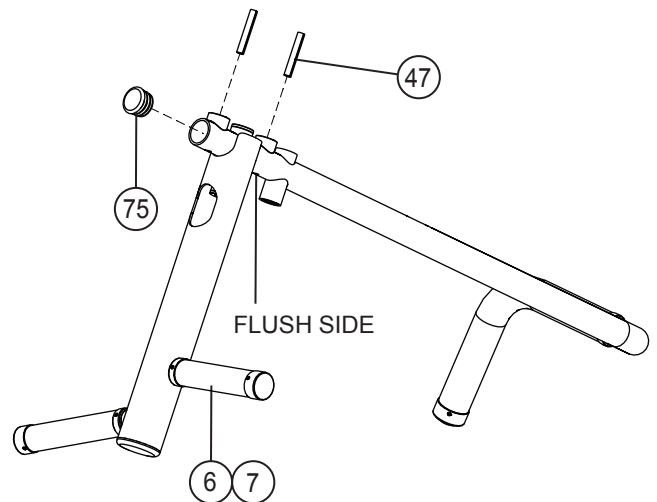

FIGURE 6
- Use a hammer to tap one 5/16 X 2" ROLL PIN (47) thru the LEFT PRESS HANDLE (7) until it is flush with the other side of the HANDLE as shown in FIGURE 6.
- Place END CAP 1-1/4" into end of PRESS HANDLE, as shown in Figure 6.
- Repeat STEP 6 for the RIGHT PRESS HANDLE (6).